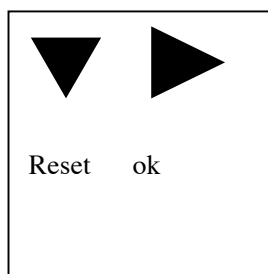

Figure 4
(1) The keyboard of the instrument is shown as figure 4.